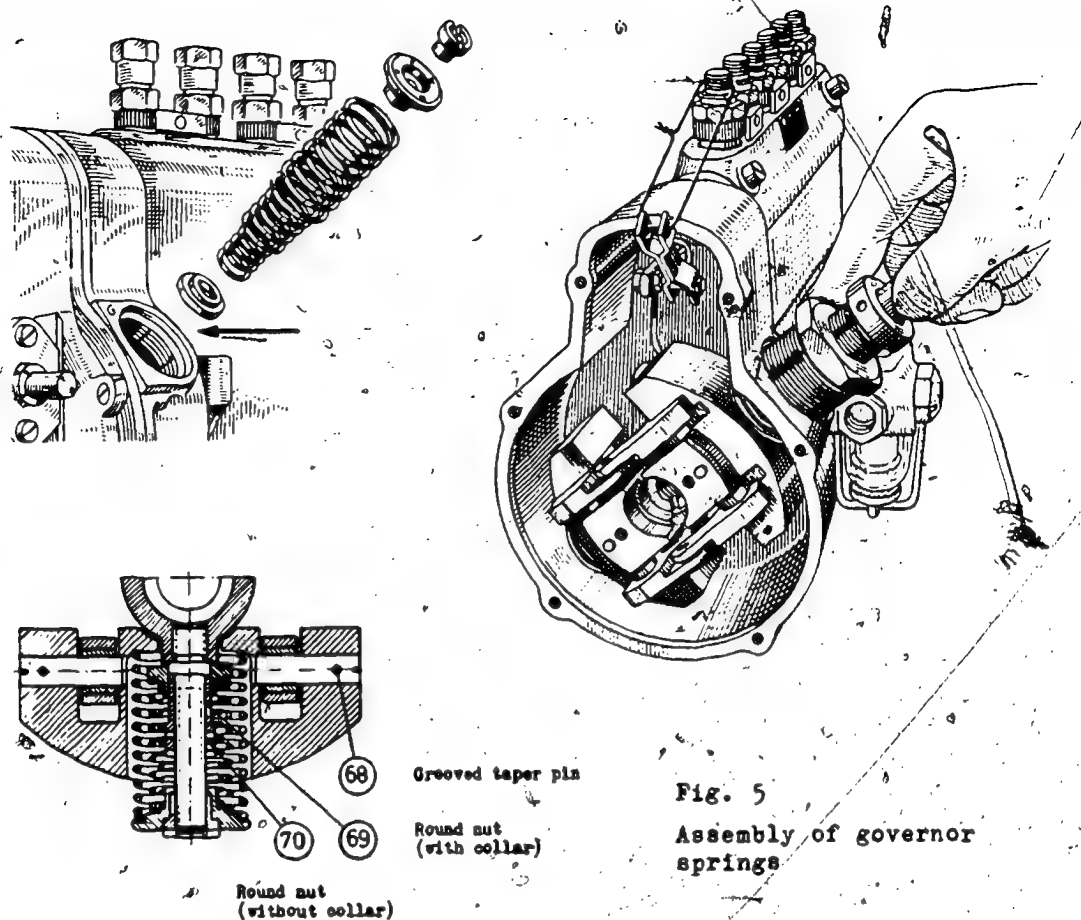

Fig. 5
1. Force pivot pin (40) into articulation piece and secure it by means of grooved taper pins. Mount bell crank levers (39), insert flyweights, force pivot pin (1) home and secure by grooved dowel pins. When coupling bolt (24) is inserted, the flyweights should move readily to and fro without jamming. Touch up flyweights or bell crank levers where required.
2. Assembly of governor springs (see Fig. 5)